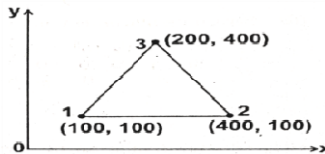

Figure-3
13. a) For the plane stress CST element as shown in the figure -3 nodal displacements are $u_1 = 2 \text{ mm}$, $u_2 = 1 \text{ mm}$, $u_3 = 2.5 \text{ mm}$, $v_1 = 1 \text{ mm}$, $v_2 = 1.5 \text{ mm}$, $v_3 = 0.5 \text{ mm}$. Determine the element stresses. Assume $E = 200 \text{ GPa}$, $\nu = 0.3$, $t = 10 \text{ mm}$. All coordinates are in mm. 13,K3,CO3